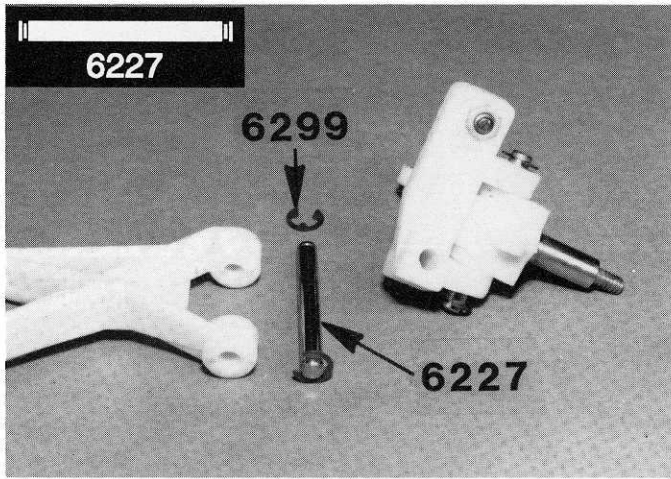

**Fig. 5**
□ **Figs. 5, 6 & 7** Line up the steering block in the block carrier as shown, and push the #6223 king pin (from Bag 7-1) through. The pin will be loose in the block carrier, but will be snug in the steering block. We want it that way. You might have to lightly tap it in.